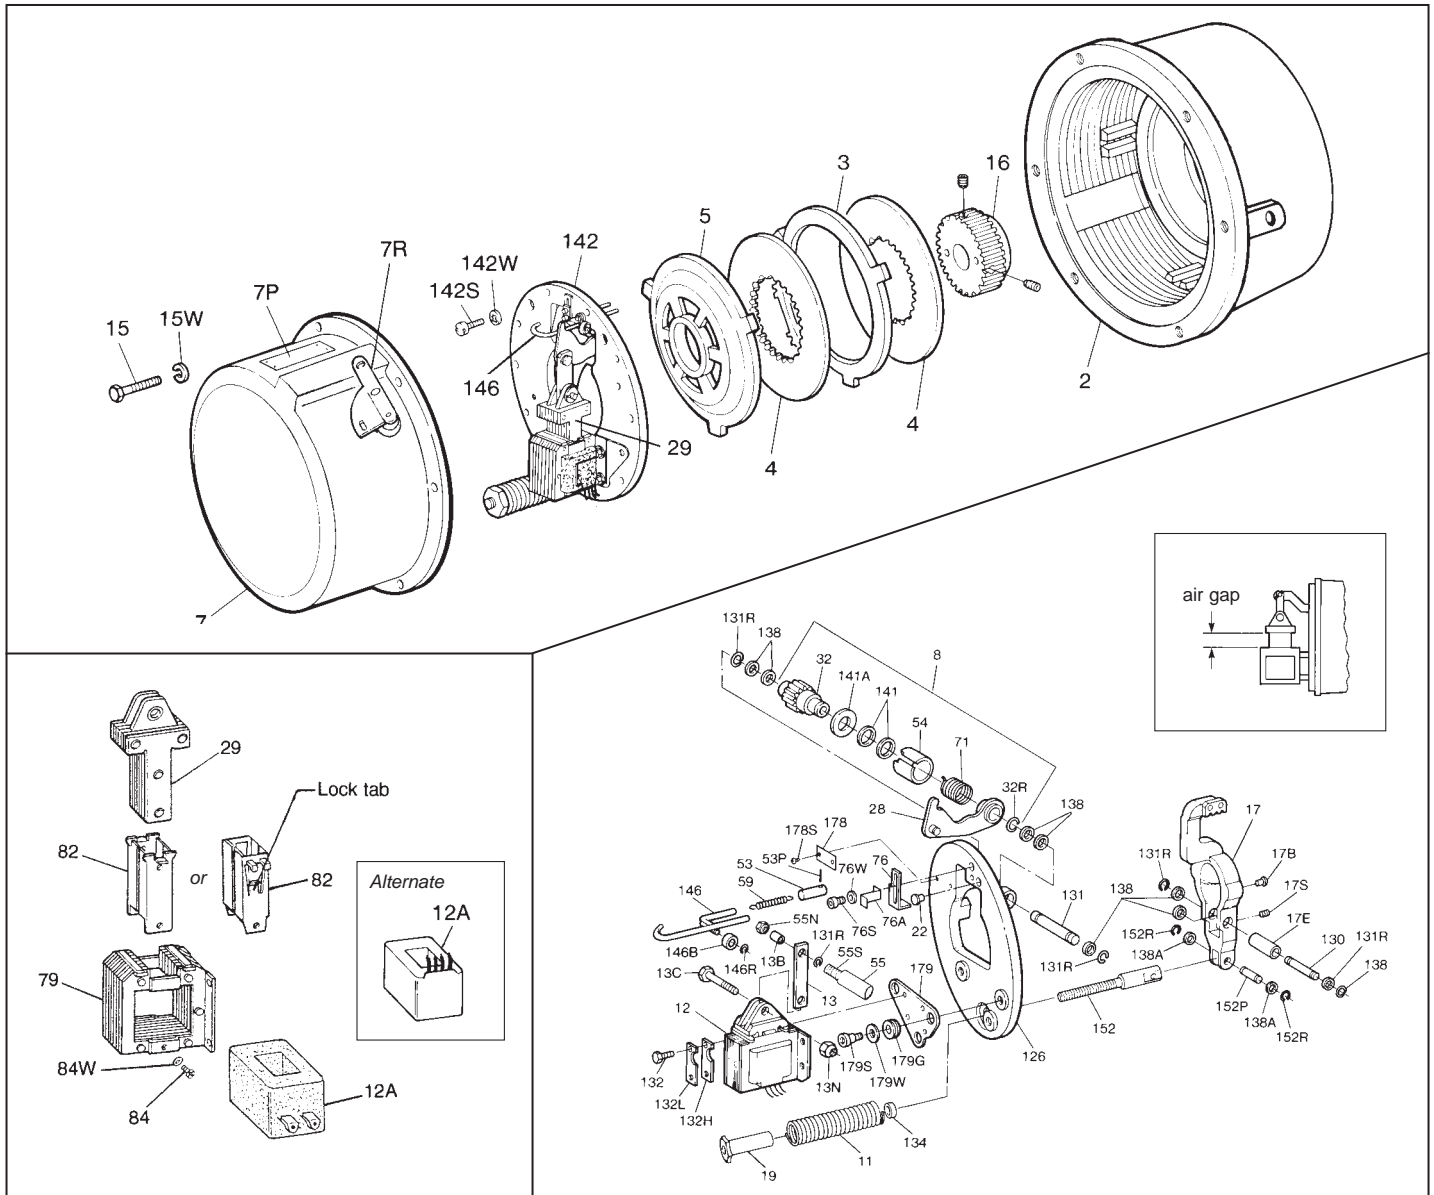

Figure 1
(See Figure 1)
1. Unscrew manual release knob (148), housing screws (15) and washers (15W) and remove housing.
3. Remove solenoid link screw (13C) and lift plunger (29) from frame (79).
4. For metallic plunger guides (82) remove plunger guide screws (84) and lock washers (84W). Remove both plunger guides (82) by prying up on the flanges. Discard plunger guides.
- a) To remove non-metallic plunger guides (82) remove screws (84) and lock washers (84W). Insert shim stock or other thin gauge material at top center of coil between coil and solenoid frame. Push to release lock tab while lifting up on plunger guide. Repeat for other plunger guide.
5. Slide coil (12A) out from solenoid frame (79) in the direction of the coil leads or terminals. If necessary, tap coil lightly with a soft hammer. If solenoid coil had burned out, be sure to remove all foreign material from the solenoid plunger (29) and solenoid frame.
lead wires upward on outboard side of solenoid. If solenoid actuated switch or DC coil is used, install coil with lead wires upward toward inboard side of solenoid. Assemble new metallic plunger guides (82), plunger guide screws (84) and lock washers (84W) if used. See Figure 1.
a) Assemble new non-metallic plunger guides (82) by inserting into position and pushing down until lock tab snaps under top bar of solenoid frame.